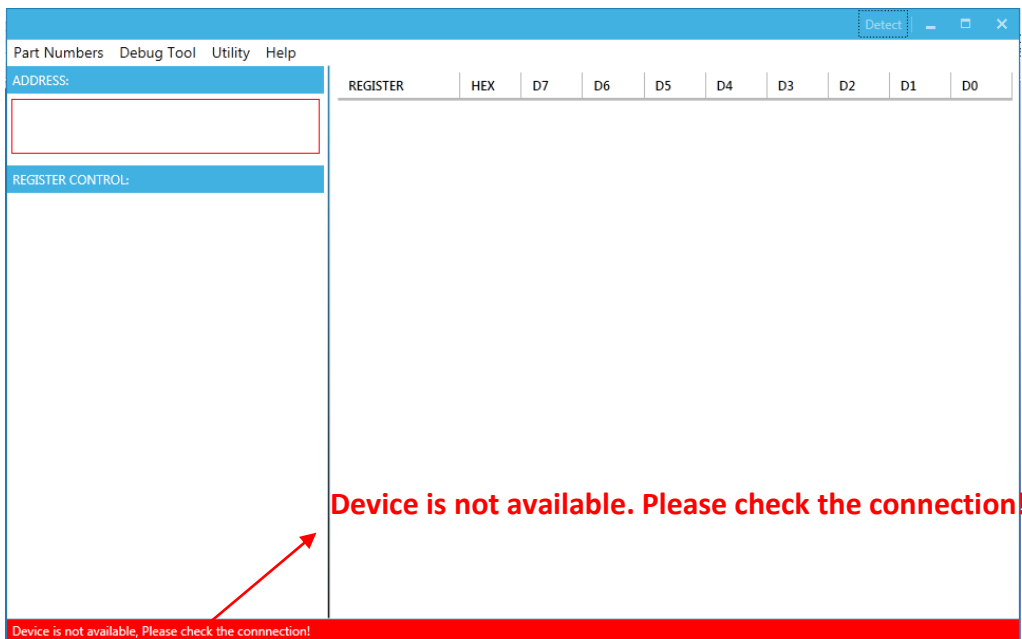

Figure 9: Warning Indicates Unsuccessful Connection – USBI2C Communication Interface Devices not Connected
- 2) “Device is not available. Please check the Connection!” This means that the USB I2C communication interface device is not connected (see Figure 9).